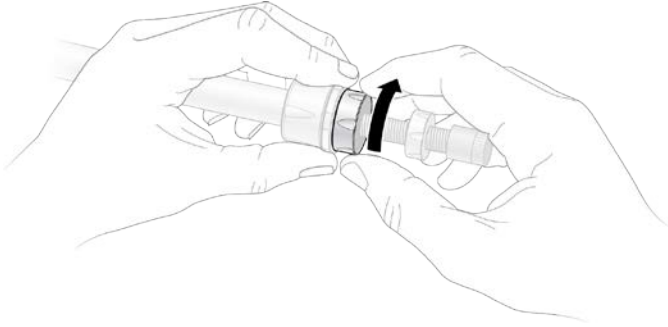

Fig. 8. Lower the adaptor by turning the adjusting nut clockwise.
13. Lower the adaptor to the top of the bed by turning the adjusting nut clockwise (Figure 8).